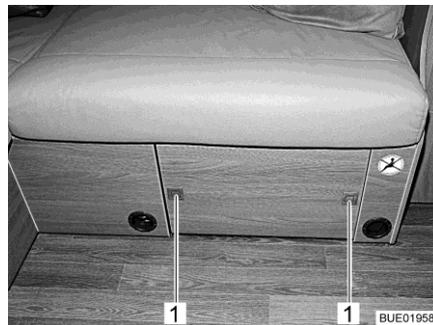

Fig. 127 Coffee table, stored
- Press the push buttons (Fig. 127,1) on the seat box panel. The push buttons jump out.
- Press the push buttons (Fig. 127,1) in until they engage.